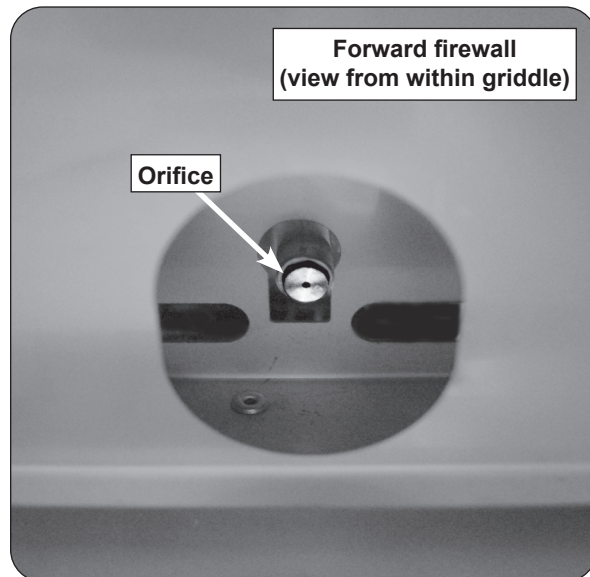

Fig. 43-1 Orifice conversion
3. Use a $\frac{3}{8}$ " hex nut driver to remove the exposed orifices (Fig. 43-1). Check orifices. If needed, replace them with the correct orifices for the new gas.